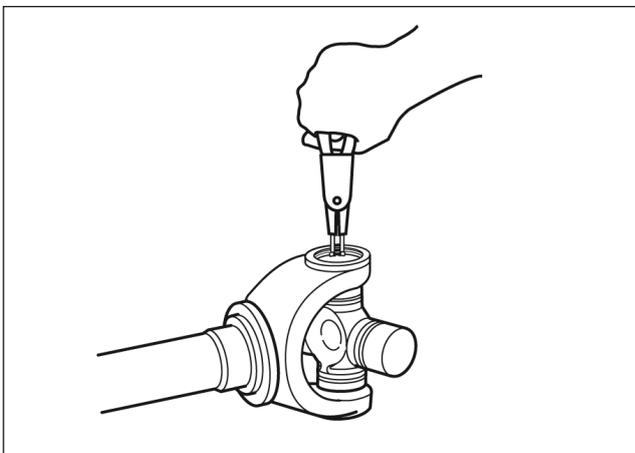

Fig. 4.11
3. In alternative of the previous point it's possible to replace the single component of the shaft. Use snap ring pliers to remove the snap rings. - Fig. 4.11